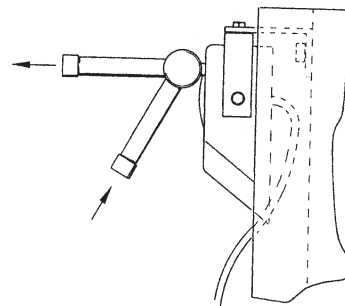

Fig. 8 VIEWER OPERATION
- Step 1. Fit the viewer into the Tx lens holes (Fig. 8) and align all Tx heads to the centre of the Rx tower. Lightly lock the heads, but do not over tighten.
- Step 3. Fit the viewer into the Rx lens holes (Fig. 8) and align all Rx heads to the centre of the Tx tower. Lightly lock the heads but do not over tighten.